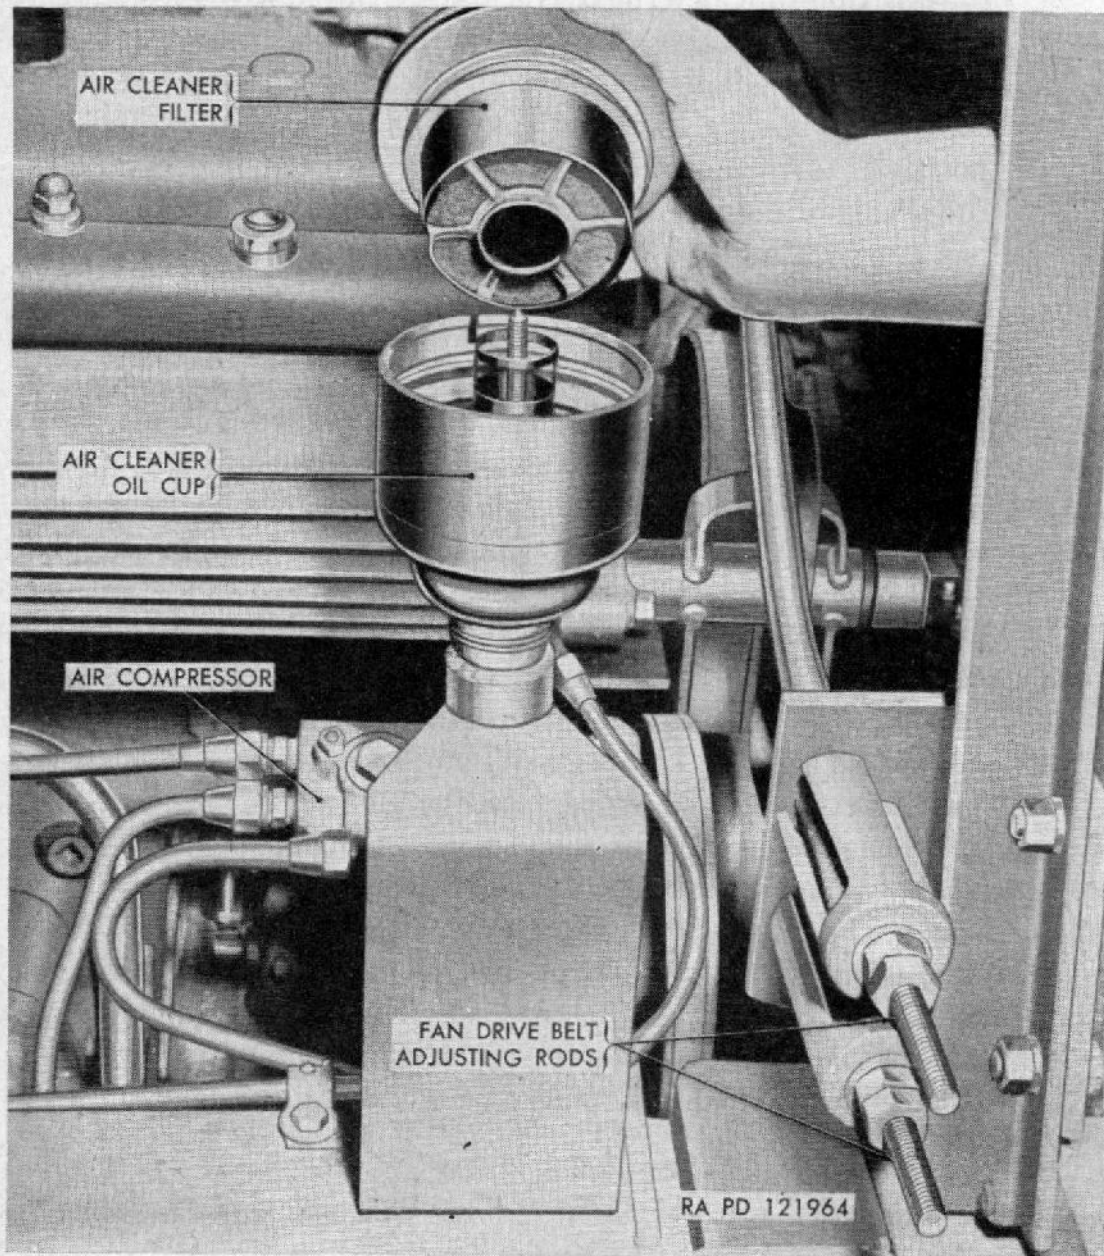

Figure 121. Compressor air cleaner.
Service the cleaner at the same interval as the engine oil bath air cleaners (par. 70). Unscrew wing nut above cleaner cover, and lift filters and cap assembly from body (fig. 121). Wash oil and dirt from body and rinse filter in clean dry-cleaning solvent of volatile mineral spirits. Fill cleaner body to level indicated on body with clean oil as specified
- on the lubrication order (par. 70); then install filter and cover (fig. 121). Tighten wing nut.